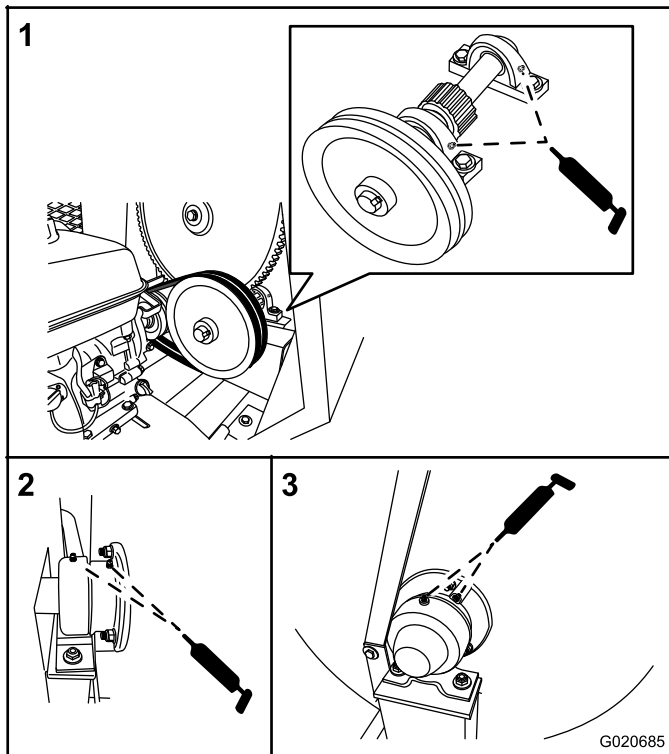

Figure 43
1. Clean around each grease fitting with a rag and lift the plastic cap off the grease fitting (Figure 43).
- For the pillow-block bearings, pump 1 shot of grease into each fitting (Figure 43).
- For the trunnions, pump several shots of grease into each fitting until it starts to ooze out of the bearing housing (Figure 43).